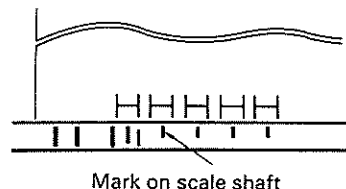

Fig. 4-24. Printing Position
- Step 2: Marked on the scale shaft should align with the center of each printed character (See Fig. 4-24). If marks and characters are not correctly aligned, and adjustment is required.